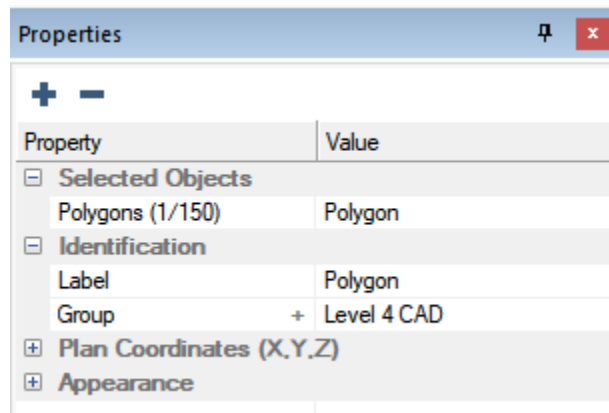

FIGURE 5-11
- Click on the slab you just created and notice in the *Properties Grid* that the *Selected Object* is a **Polygon** as shown in **FIGURE 5-11**.